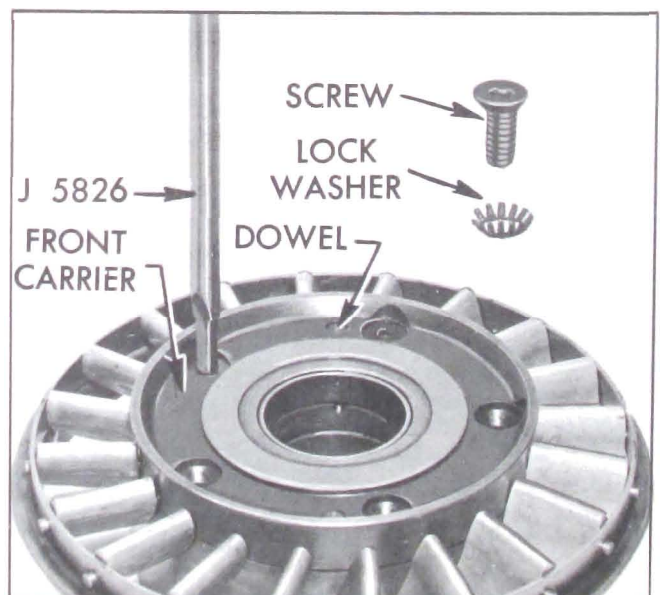

Figure 5-50—Removing Front Carrier Screws
3. Use screwdriver J-5826 to remove the stator blade front carrier screws and lock-washers, then remove front carrier which is also held to rear carrier by two dowels. See Figure 5-50.